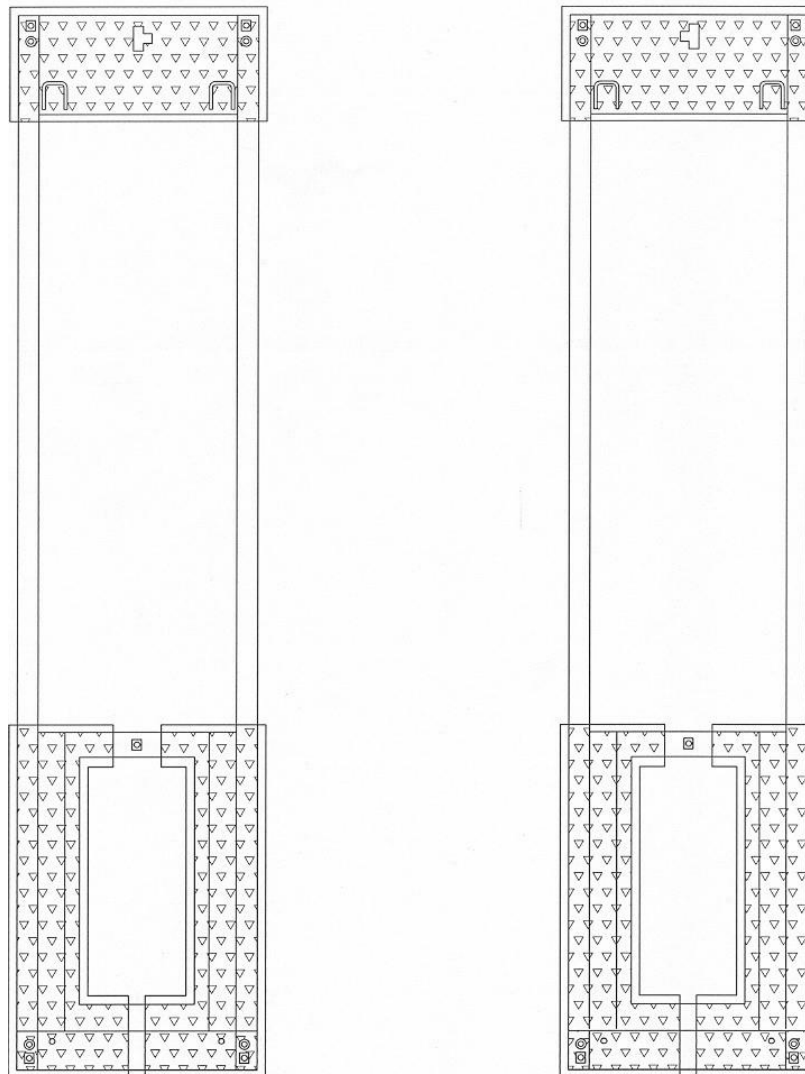

Figure 24 - Grouting Locations
1. Pour grouting under the load area of each base frame as shown in Figure 24. Ensure that grout is evenly distributed under the frame and finish the edges with a 45 degree chamfer. Refer to specific grouting instructions on the package. Leave a drain area to allow any liquids to escape.